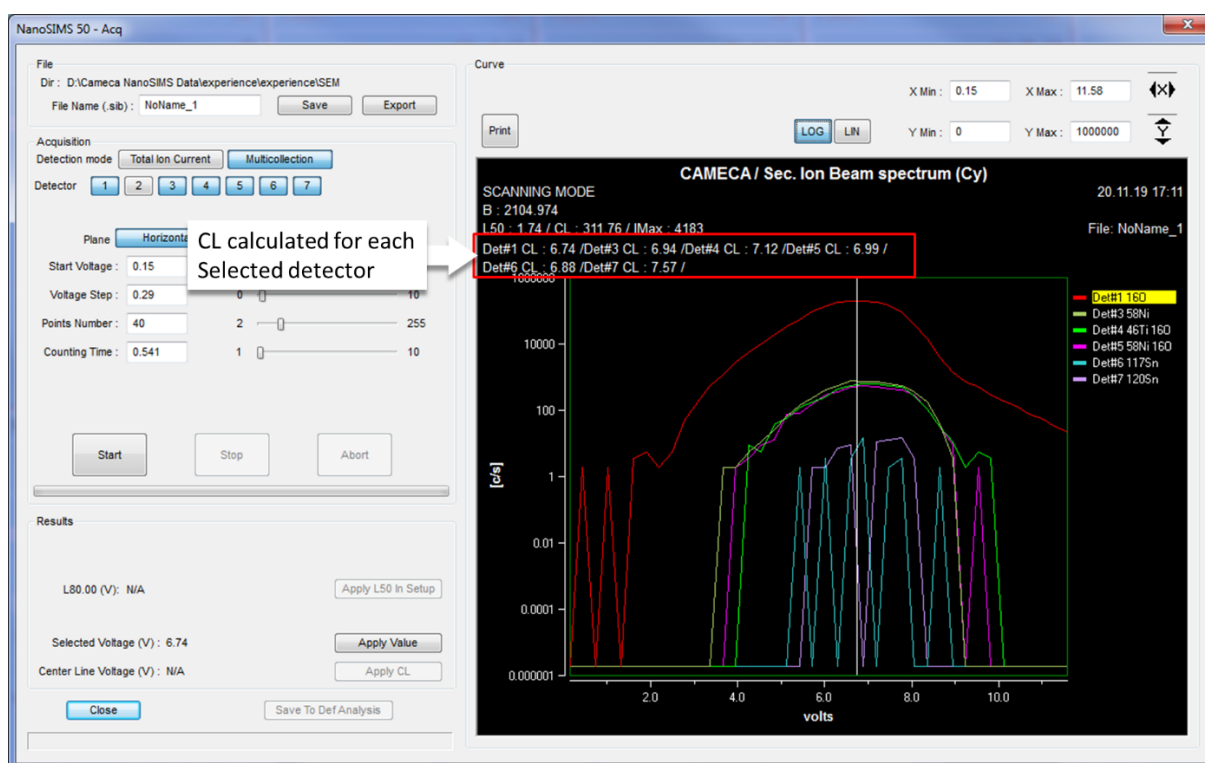

Figure 402: scan of Cy in Log scale and on multiple detectors to check the adjustment of the B-field coils.
To check that the B-field coils are properly set, you must have several masses set on several detectors, with a good signal ( $>$  a few hundreds counts) and spread over a large mass range on the multicollecion: e.g.  $^{12}C$ ,  $^{16}O$ ,  $^{28}Si$ ,  $^{28}Si_3$ ,  $^{197}Au$ -, etc... Go to "Secondary Ion Beam" (TUNING  $>$  Sec. Ion Beam), select all used detectors and scan Cy (horizontal) and P3 (Vertical) in Log scale (Figure 402). The central line (CL) for all masses must be close (within 0.1 V). If certain masses have a CL significantly different from the others, you must adjust the horizontal and vertical B-field coils (Bf-hor and Bf-vert, respectively).